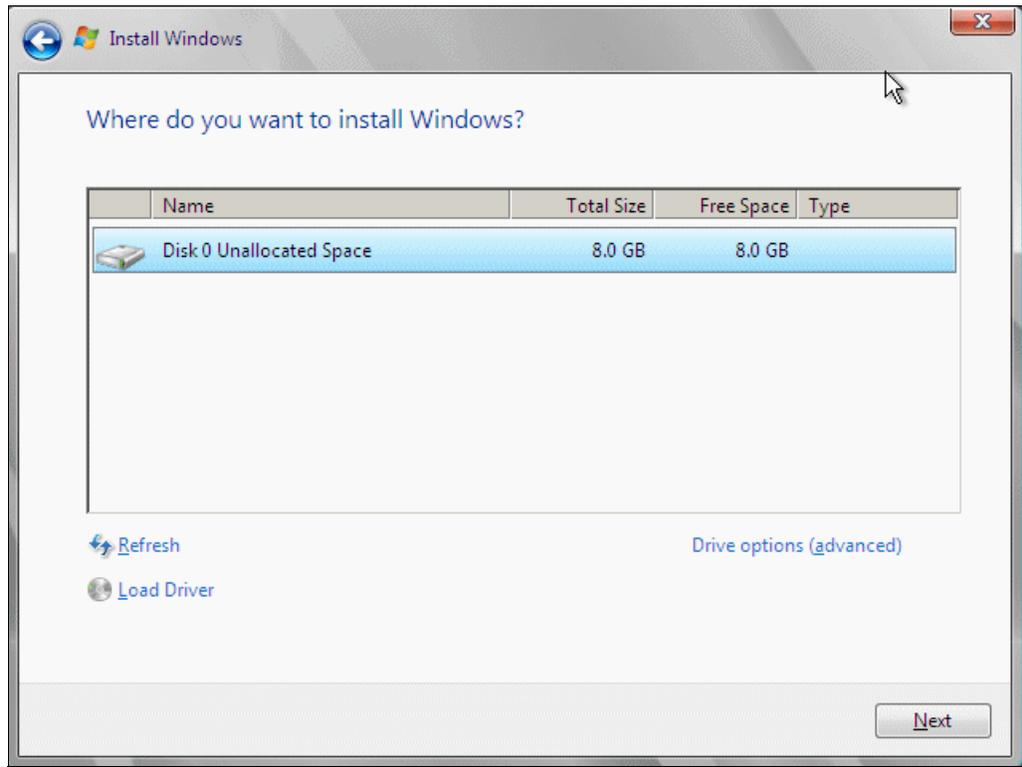

Figure 10-44 Where do you want to install Windows? screen
7. If the window shown in Figure 10-44 does not show any hard drives, or if you prefer to install the HBA device driver now, click **Load Driver**.